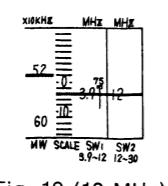

Fig. 19 (12 MHz)
| (7) | " | 12 MHz | 12 MHz [Fig. 19] | " | C ₁₈₉ (OSC Trimmer) |